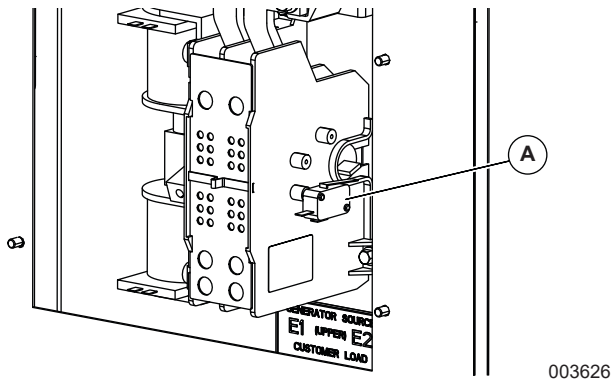

Figure 3-9. Auxiliary Contact
See Figure 3-9. If desired, there is one normally-closed Auxiliary Contact (A) on the transfer switch to operate customer accessories, remote advisory lights, or remote